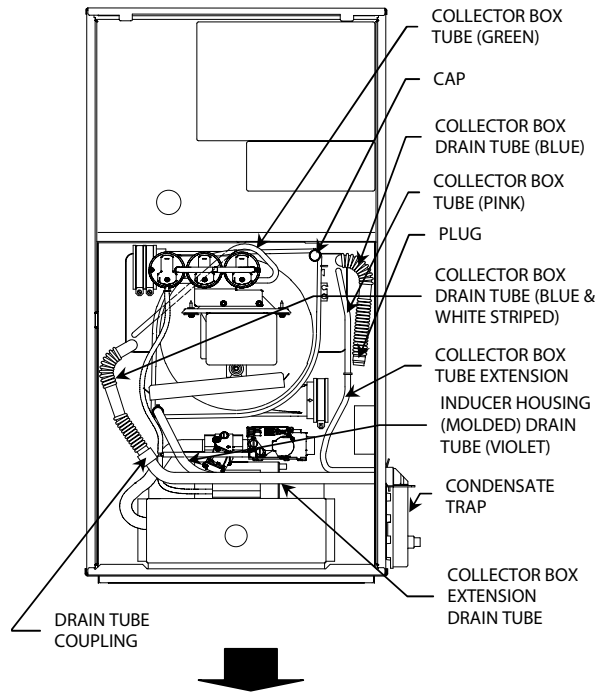

Fig. 10 - Factory-Shipped Trap Location (Shown with Blower Access Panel Removed)
- (c.) Route extended collector box drain tube between gas valve and inlet housing as shown in Fig. 10.